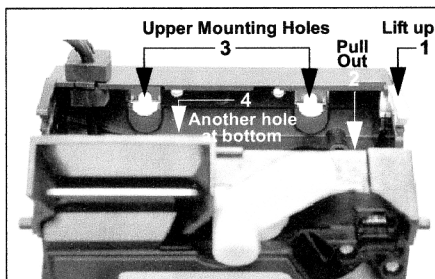

Figure 2 Mounting Hole Locations
3. Hang the A-66 in the Vending Machine using the three mounting holes located on the back wall of the Coin Validator. Two holes are located at the top [3] and one is located at the bottom [4] (not shown. See Figure 2).